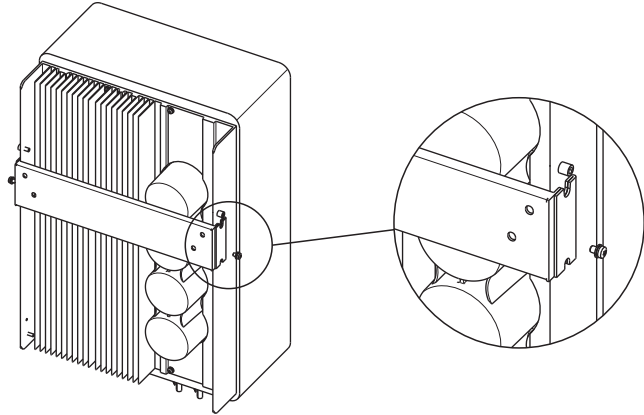

Figure 4.5 Wall Mount Bracket
Please see Figure 4.4 and Figure 4.5 for instruction on mounting the inverter.. The inverter shall be mounted vertically. The steps to mount the inverter are listed below.
2. Lift up the inverter (be careful to avoid body strain), and align the back bracket on the inverter with the convex section of the mounting bracket. Hang the inverter on the mounting bracket and make sure the inverter is secure (see Figure 4.5).